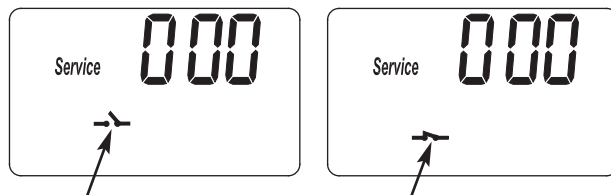

FIG. 38
3. Symbols in the display indicate POSITION switch operation (See Figure 38).